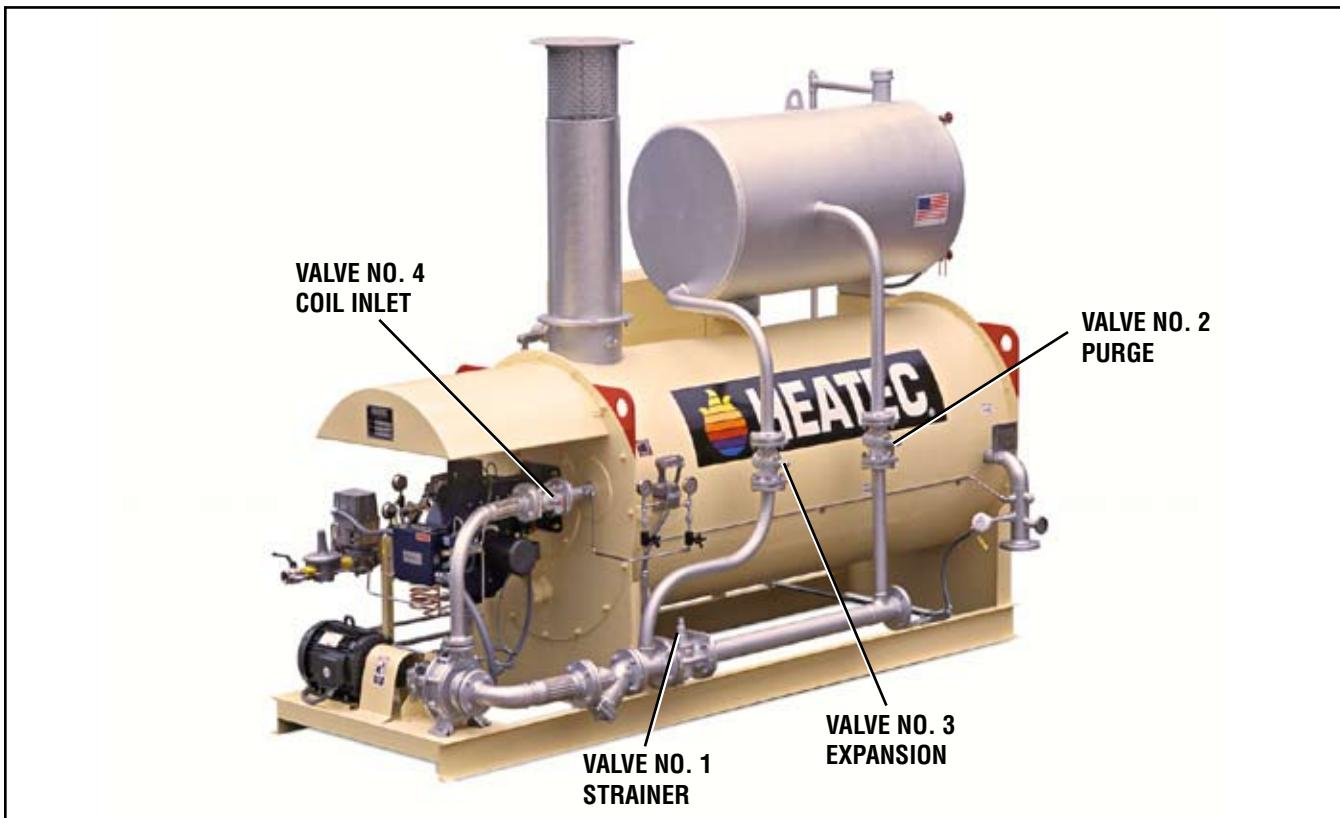

Figure 2. Heatec HCS (single line) thermal fluid heater (no side pumps).
Pressure differentials for HCS heaters (Figure 2), which are heaters *without* side pumps) vary according to the installation and according to size of the heater. Appropriate settings for the pressure differential switches must be determined during initial startup of the heater.
Step 1. Close valves 1 and 2. Leave valves 3 and 4 open (**Figures 2 and 3**).
Step 5. Open valves 1 and 2. (**Figures 2 and 3**.)